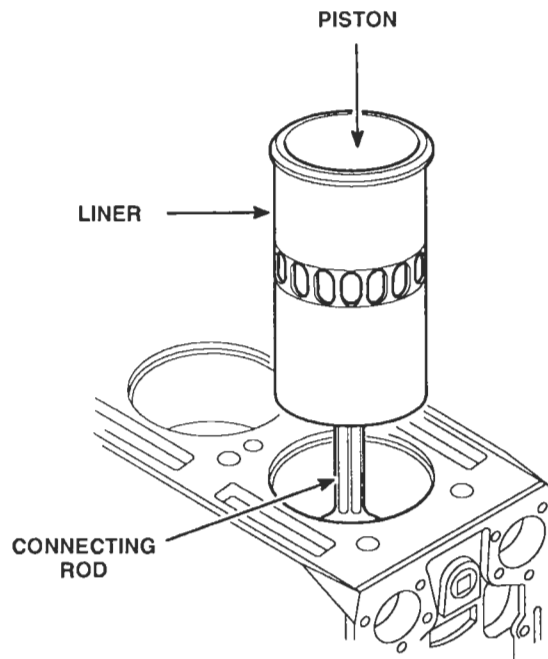

Figure 10. Piston, Rod and Liner Installation
4. Position the piston, rod and liner assembly in line with the block bore (Figure 10.) so the identification number on the rod is facing the blower side of the engine and the match-marks on the liner and the block are in alignment. Guide the end of the connecting rod through the block bore carefully to avoid damaging or dislodging the bearing shell. Then, slide the piston, rod and liner assembly straight into the block bore until the liner flange rests against the insert in the counterbore in the block.